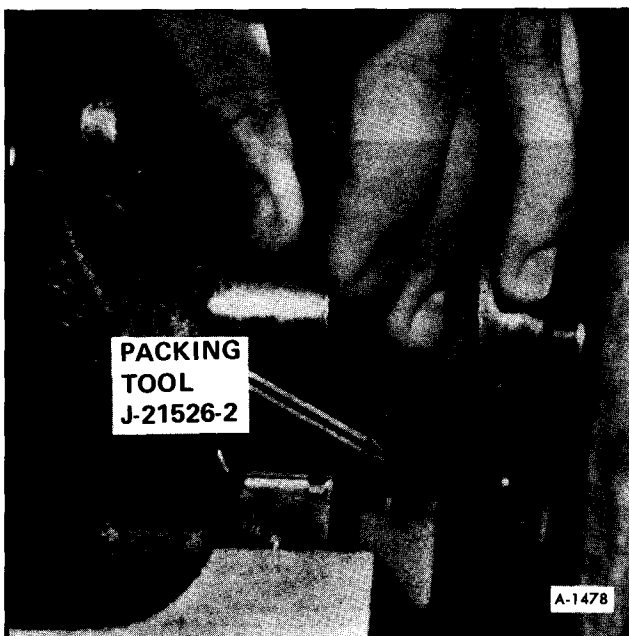

Figure 72—Packing Seal Into Cylinder Block
2. Insert Packing Tool J-21526-2 against one end of seal in cylinder block and drive the old seal gently into the groove until it is packed tight. This varies from 1/4" to 3/4" depending on the amount of pack required. See Figure 72.